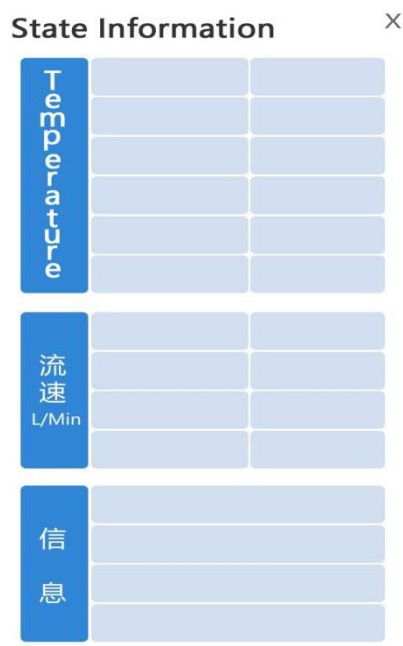

Fig 4 : State Information page
1. State Information: Click this button to display the state information interface, as shown in Figure 4, which can be viewed. Look at the temperature of the oven, the water inlet flow rate of the four water washing tanks, and the operation information of the current dyeing.
3.2.2 Click "P1", and the P1 button will be displayed in green. Click the shortcut startup program to be specified for P1, such as HE-2. At this time, the words "HE-2" will be displayed below P1, and so on. You can specify the shortcut startup program for P2-P5. After setting, click the "Return" button on the screen to switch to the interface as shown in Figure 4. Now you can see the program buttons of P1-P5 that have been assigned.